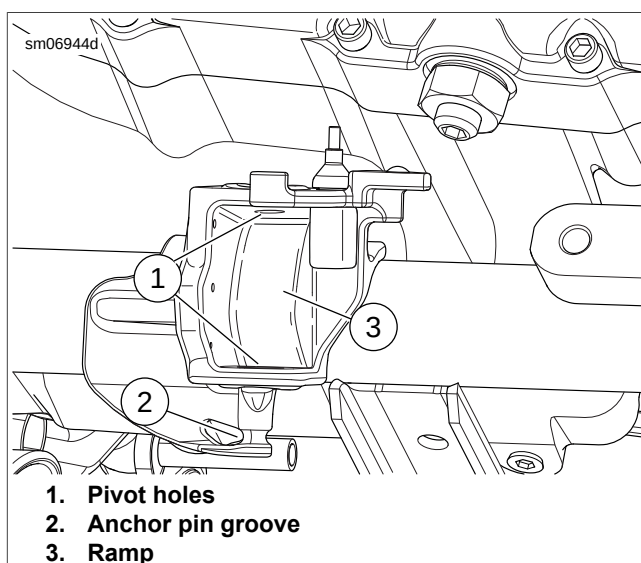

Figure 2-220. Lubrication Points
2. See Figure 2-220. Apply ANTI-SEIZE LUBRICANT to the leg pivot holes in the yoke (1), the groove of the anchor pin (2) and the OD of the clevis pin.
3. Coat the ramp (3) of the yoke with ANTI-SEIZE LUBRICANT.